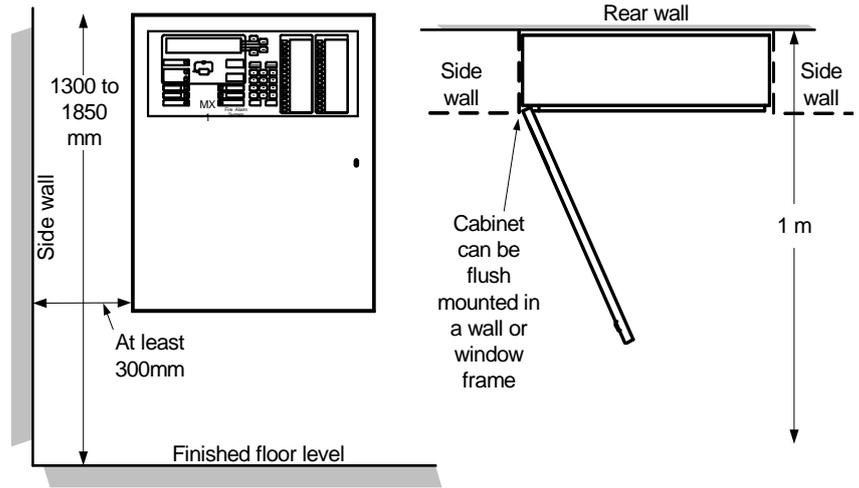

Figure 1 – Recommended Clearances – Slimline Cabinet
- Allow the LCD to be at typical eye level (see Figure 1).